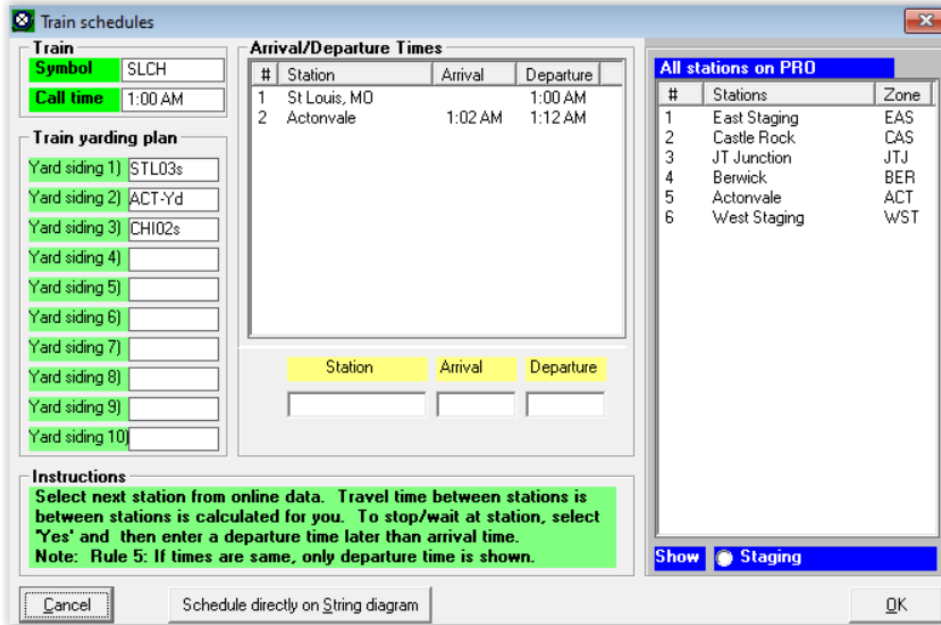

Figure 12-16
6. We can now click on the "Save Stop" button to enter Actonvale into the timetable with the 10 minute stop we want. The result is shown in Figure 12-16.